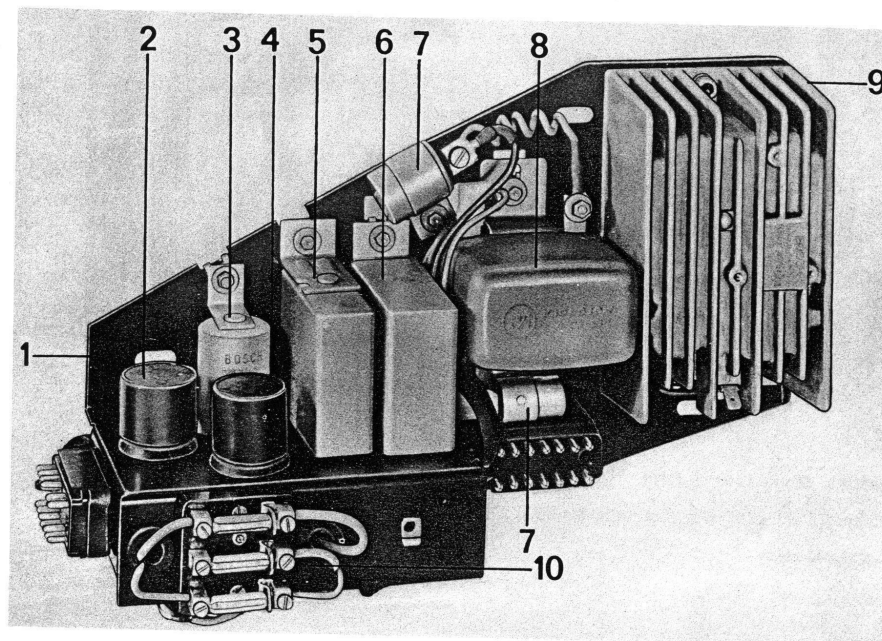

Fig. 1
1. Console - engine compartment, left side (Fig. 1)